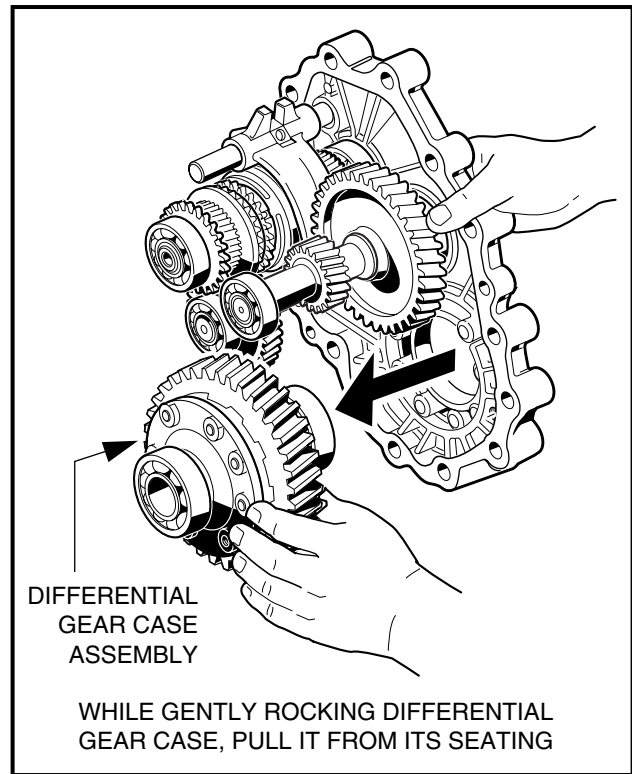

FIGURE 10-38
8. When all of the gear assemblies are slightly loosened, remove the differential gear case assembly by gently rocking it while pulling it from the casing (**Figure 10-38**).